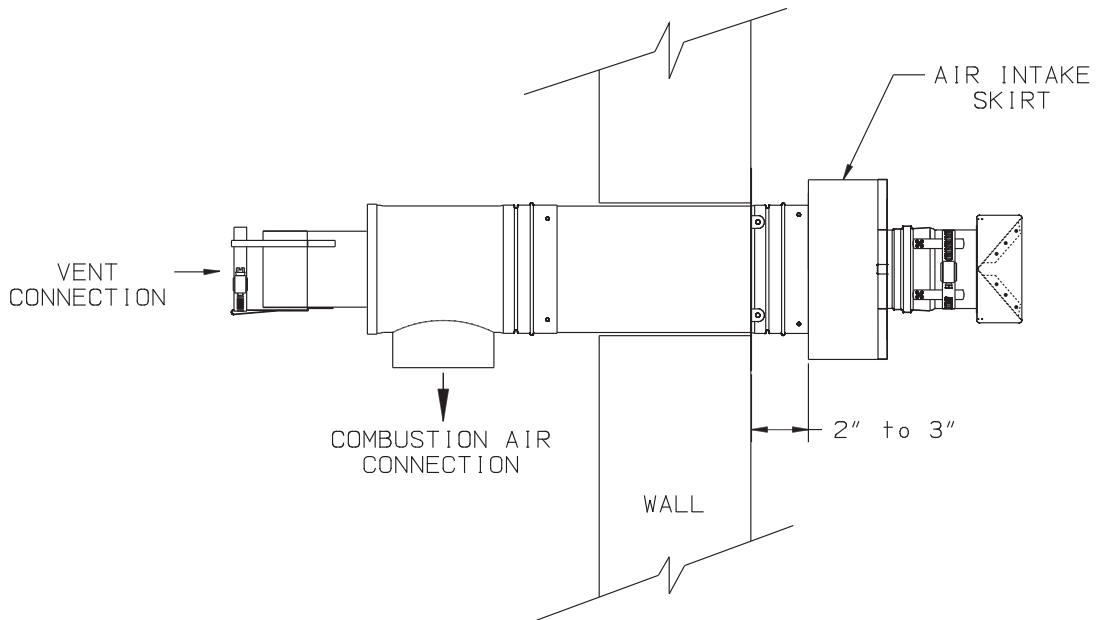

FIGURE 18b: CROWN COAXIAL TERMINAL ASSEMBLY
- Adjust the position of the terminal in the wall so that the edge of the intake skirt is 2-3” from the wall plate (Figure 18b). Also verify that the terminal is pitched in the same direction as the rest of the vent system.
- Loosen the hose clamp on the end of the exhaust terminal. Mount the exhaust terminal onto the intake terminal with the “V” horizontal (flue gas openings on top and bottom) as shown in Figure 18b. Slip the hose clamp over the “fingers” on the intake terminal and tighten the clamp.